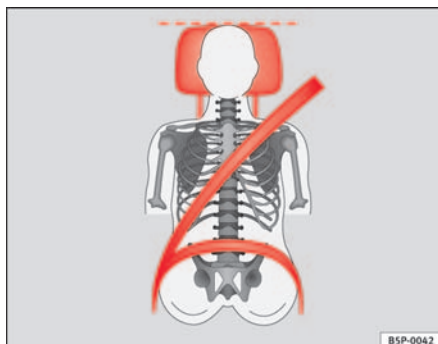
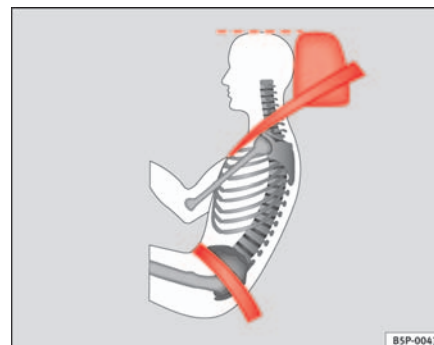

Fig. 92 Viewed from in front: Properly adjusted head restraints and proper belt adjustment
Fig. 93 Viewed from side: Properly adjusted head restraints and proper belt adjustment
- Adjust the head restraint so that its upper edge is at the same level as the top of your head, or as close as possible to the same level as the top of your head and, as a very minimum at eye level. ⇒ fig. 92 and ⇒ fig. 93